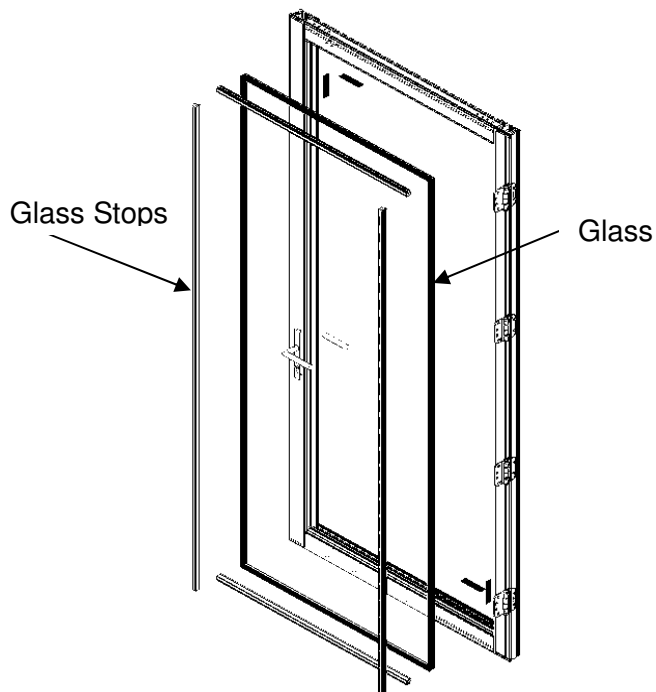

Figure 12:
- Install glass to panel (Figure 12).
- Install the door panels to the outer frame (Figure 12) by aligning the hinges to the frame and installing the provided #10-32 screws with a T25 driver.